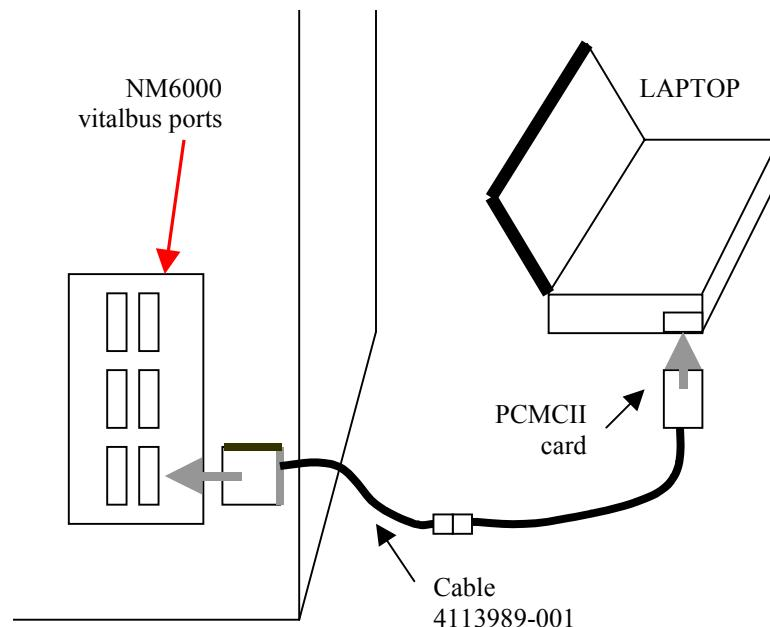

FIGURE 8. Laptop Connection Example
- 3.2 With the NM6000 System Power switch at STANDBY and the laptop power switched off, connect the Vitalbus cable P/N 4113989-001 or 4113898-002 to any Vitalbus port (J4 thru J7) on the NM6000. Connect the other end of the cable to the laptop's LAN card as shown in FIGURE 8.